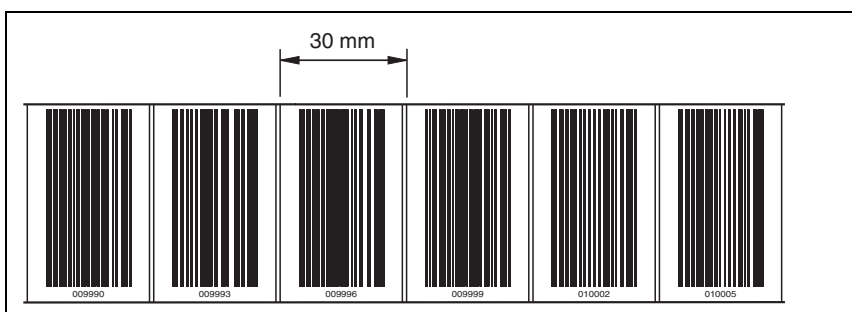

Figure 6.11: Checking the print results of the BCT repair kit
3. Verify the printing result by measuring the distance between two codes (see figure 6.11).